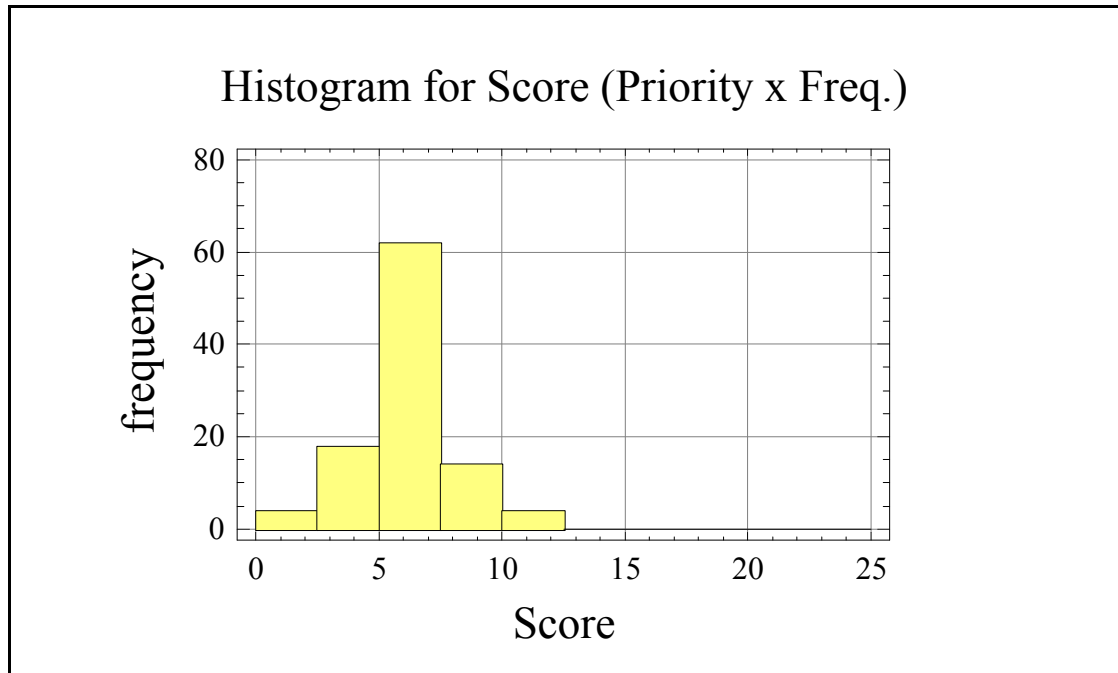

Figure 3 Histogram of PM Undesireable Effects Priority Scores
- c. **Figure 3** shows the overall priority for the various PMUE's. This overall score is the severity score multiplied by the frequency score. As can be seen, the maximum score is 12 (out of a possible 25), the minimum is 1 (the absolute minimum possible, and the mode is 6. This distribution would generally be considered *Excellent*.